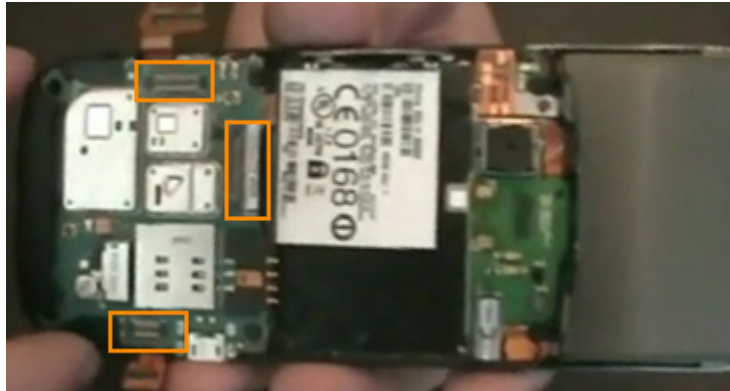

Figure 4
- With the back plate removed you will be able to access three flex cable connectors at the locations shown in figure 4. Use safe open pry tool to disconnect these cables from their connectors. For the flex cable located at the center you will have to peel off a sticker first before you could unclip this.